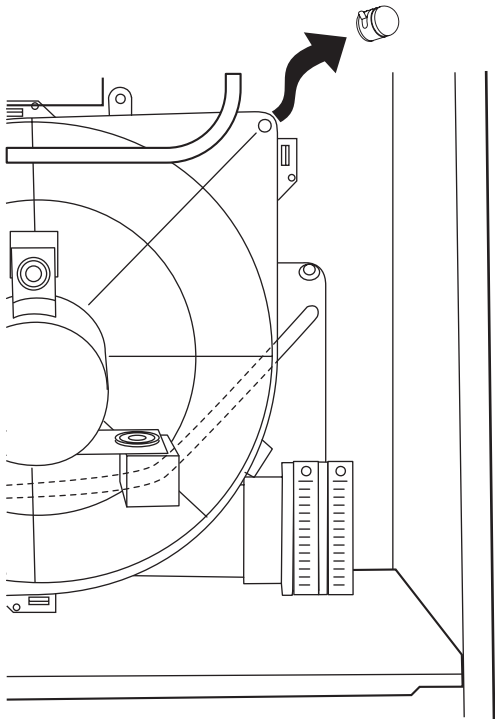

Fig. 18 – Inducer Housing Drain Tube
3. Disconnect upper inducer housing drain connection cap from inducer housing. (See Fig. 18.)